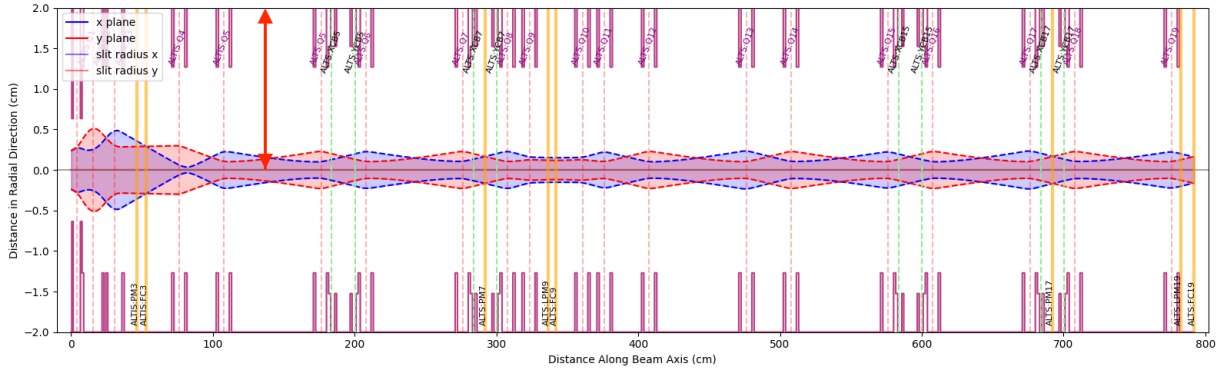

Figure 10: Environment Configuration File: beam\_wall\_width
- **beamline\_wall\_width** The name is a bit confusing. The distance from the 0 line to the beam wall is meant, see Figure 10.